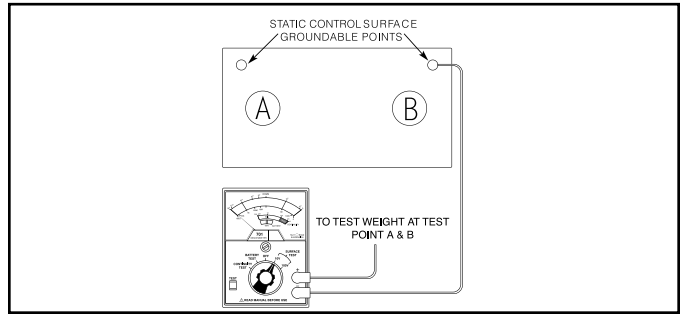

Figure 7. Material Evaluation Surface to Groundable Point Test.
- D. Surface-to-Groundable Point Test: Test samples per Figure 7, using both the 100 volts and 10 volts SURFACE TEST ranges at 50% RH and record the values as (RTS-GP).